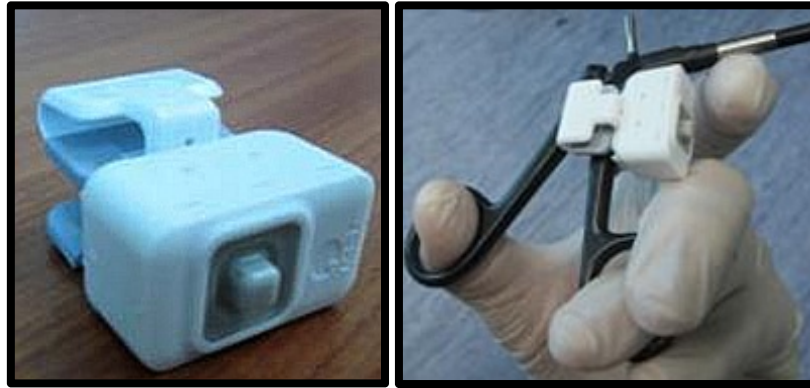

Figure 2: Clip- configuration of the CU
2. **Clip**, which is connected to the surgical tool. The **Clip** Unit is activated with the surgeon's index finger. See Figure 2.